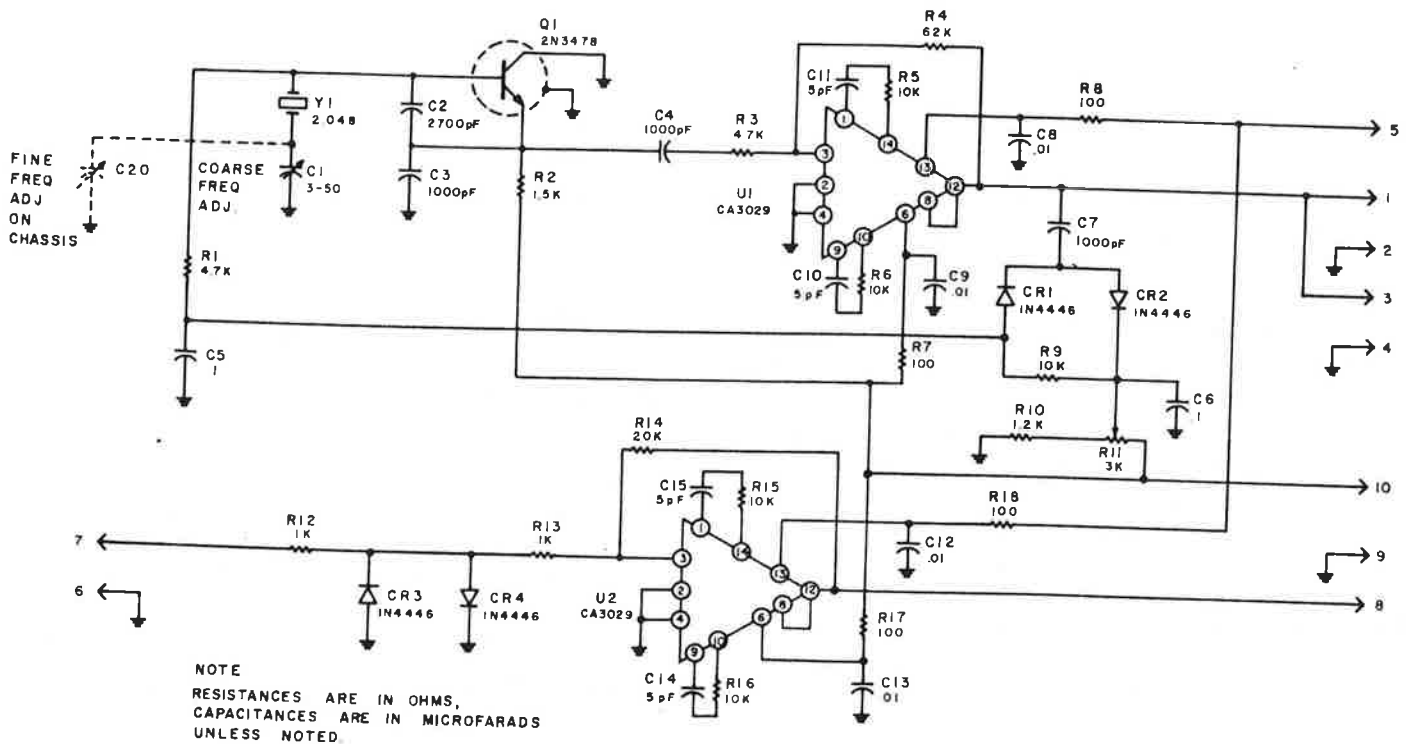

Fig 9. AMM-1 Clock Oscillator and counter Driver Schematic.
The output of a stable, crystal-controlled 2.048000 MHz Colpitts oscillator, Q1 (Fig. 9) is amplified by U1. Variable bias AGC feedback circuit CR1, 2, R9-11, enhances stability and accuracy of the oscillator. The resulting signal appearing at pins 1 and 3 is the master reference clock. For proper operation the clock is adjusted by R11 to have an amplitude of 2.4 V P-P. The master reference clock frequency is divided by a binary countdown chain consisting of 23 flip-flops U1-12A (Fig. 15) to yield a periodic time base pulse which is high for 2.048 seconds.
RF carrier to be measured is applied to FREQ RF IN/jack, J3, on the rear panel. The carrier is limited by CR3, 4 (Fig. 9) and amplified by U2 to produce a squarewave at the carrier frequency.
b. Check DC power supplies at the appropriate test points on Counter and Logic Assembly and the master clock amplitude (2.4V P-P) at pin 1. Adjust master clock amplitude, as required, by means of R11 (Fig. 9).